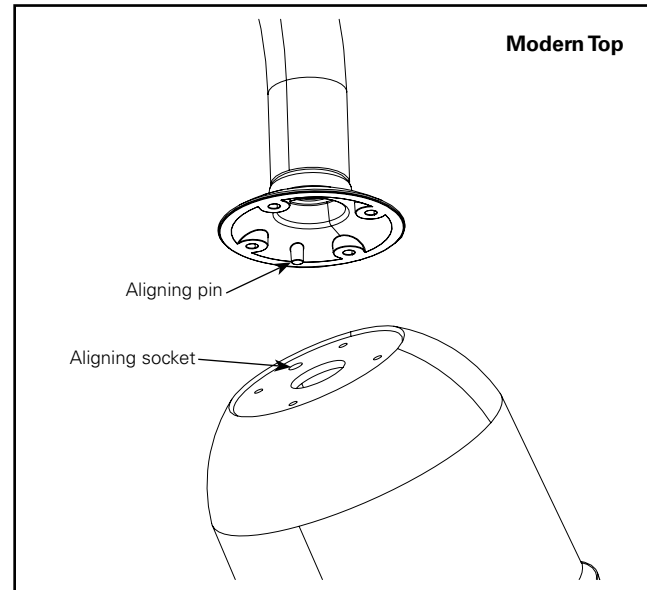

Figure 2.
5. Raise fixture to arm aligning locating pin and socket. See Figure 2.